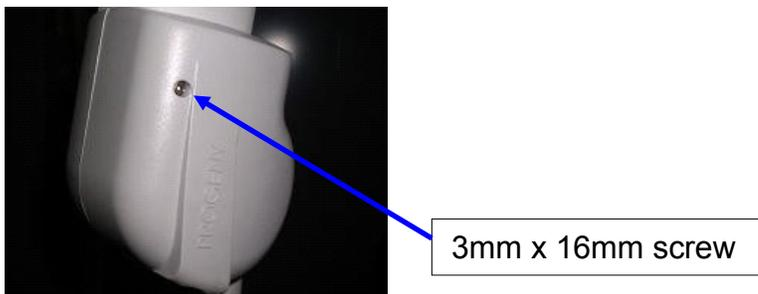

Figure 29
5. Press the two matching covers together and secure with the 3 mm x 16 mm screw provided in the package. Use a 3 mm hex wrench to tighten (see Figure 29 on page 20).